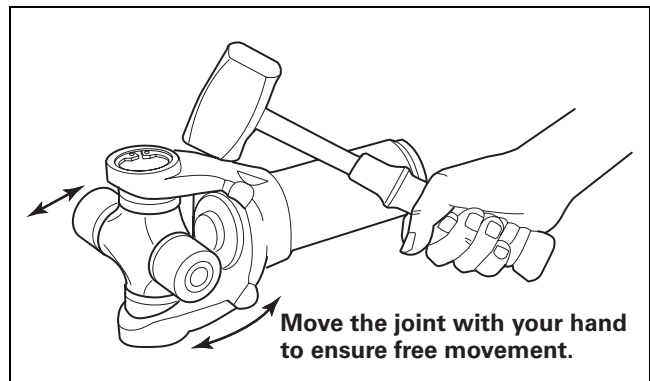

Figure 8.35
9. Strike the yoke ear with a brass or copper hammer to ensure that the universal joint moves freely. Figure 8.35.